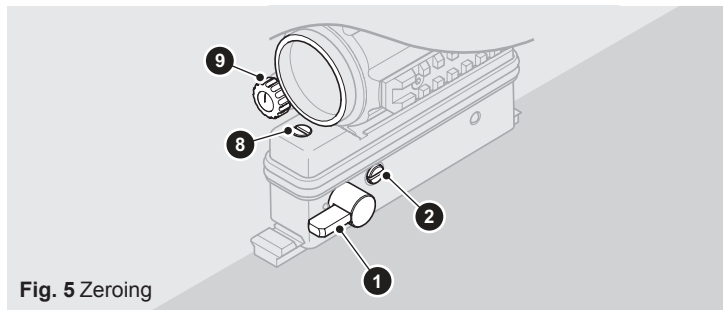

Fig. 5 Zeroing
NOTE: Before performing zeroing, ensure the ballistic compensation lever (1) is set to "position A" (oriented horizontally and toward the gunner as shown in Fig. 5).
- Turn the intensity switch (9) clockwise until the red dot has sufficient intensity.
- Ensure the ballistic compensation lever (1) is set to "Position A" (oriented horizontally and toward the gunner as shown in Fig. 5).